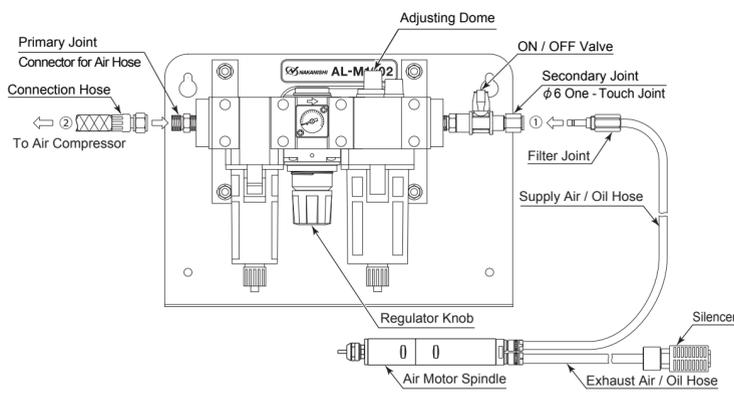

Fig. 20 Connection of Air Line Kit "AL - M1202 (Sold Separately)"
- Connect the Filter Joint of the supply air / oil hose to the Secondary Joint (φ6 One - Touch Joint) of the Air Line Kit (Fig. 20 ①).
- Connect the connection hose (Air Line Kit's Standard Accessories) to the Primary Joint of the Air Line Kit and Compressor (Fig. 20 ②).